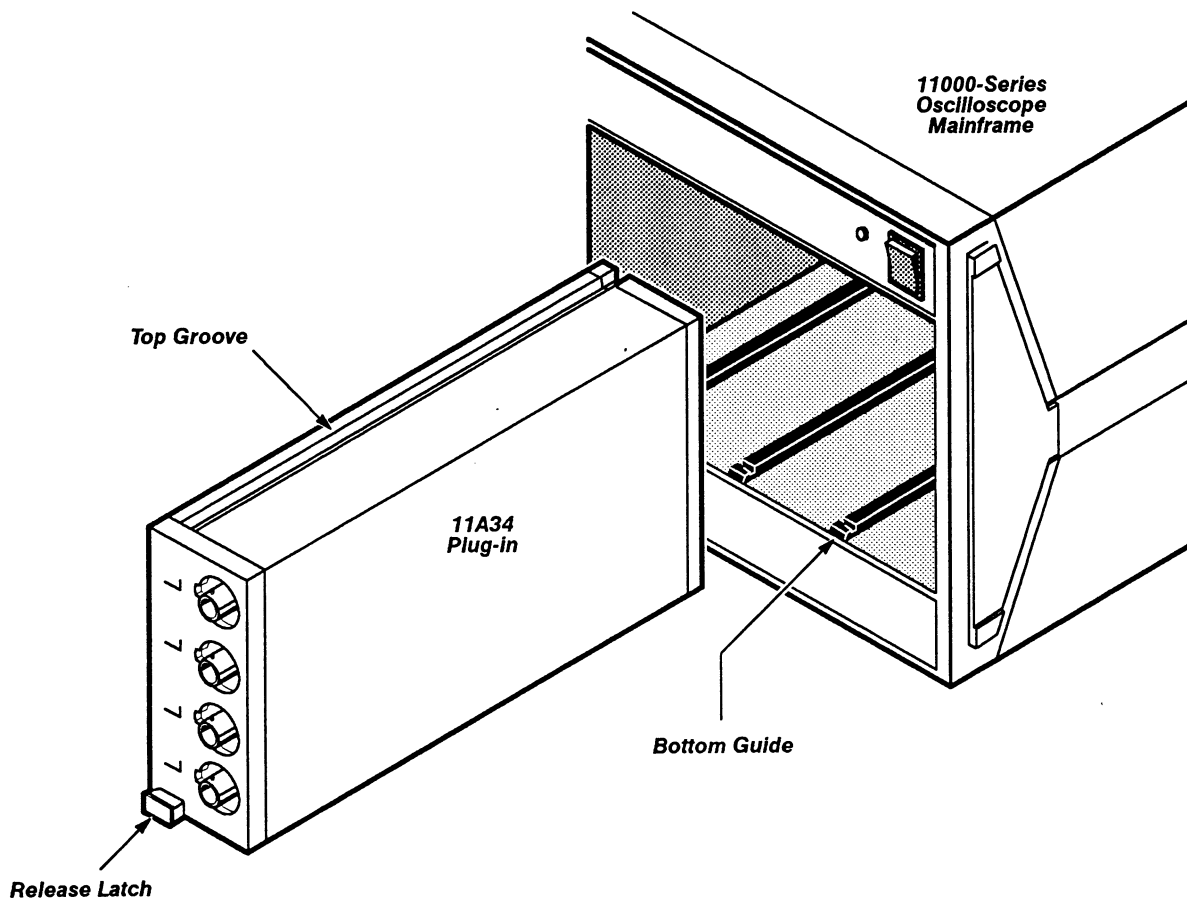

Figure 1-1 — Installing the 11A34 Amplifier in a Mainframe
2. Pull the release latch (see Fig. 1-1) to disengage the amplifier from the mainframe.